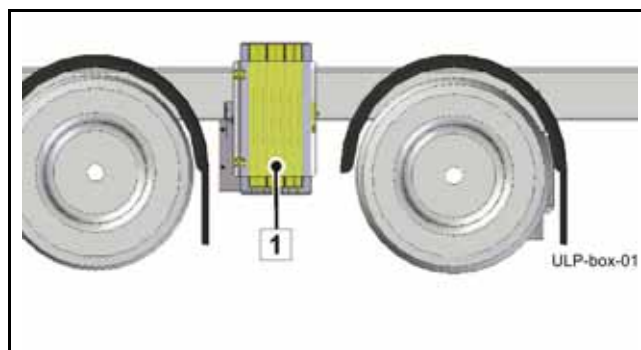
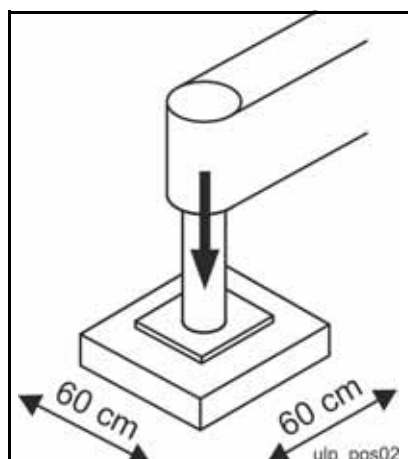

Fig. 128 Example: Storage of support pads
Fig. 129 Arrangement of support pads
Always use the standard, weight-distributing underlays (example 1; **(Fig. 128)**) to increase the support surface **((Fig. 129))**.
- Place the support pads under the centre of each supporting leg as illustrated in **(Fig. 129)**. If necessary, only improve the positions of the support pads; do not move the outrigger.